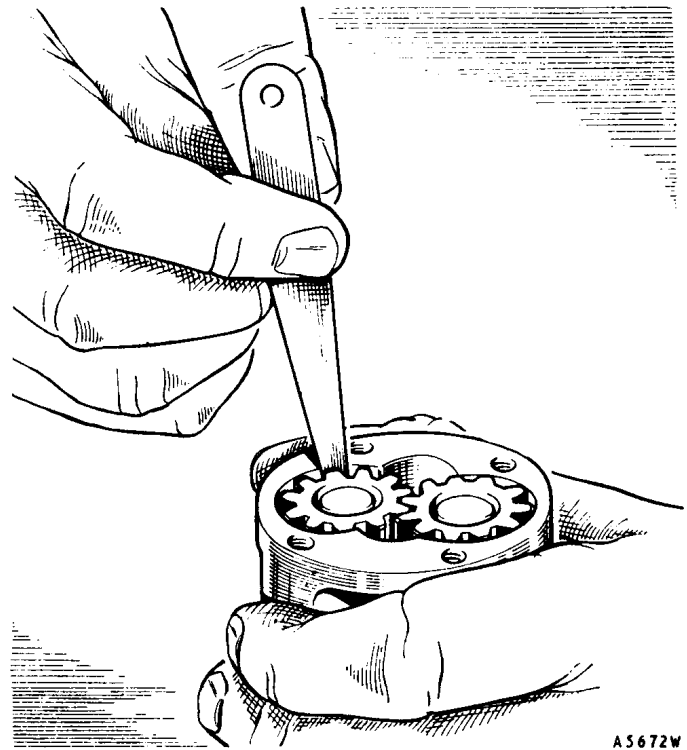

Fig. A.6
- (1) Measure the radial clearance between the teeth of the gears and the pump body (see Fig. A.6). This should not be more than .006 in. (.15 mm.).